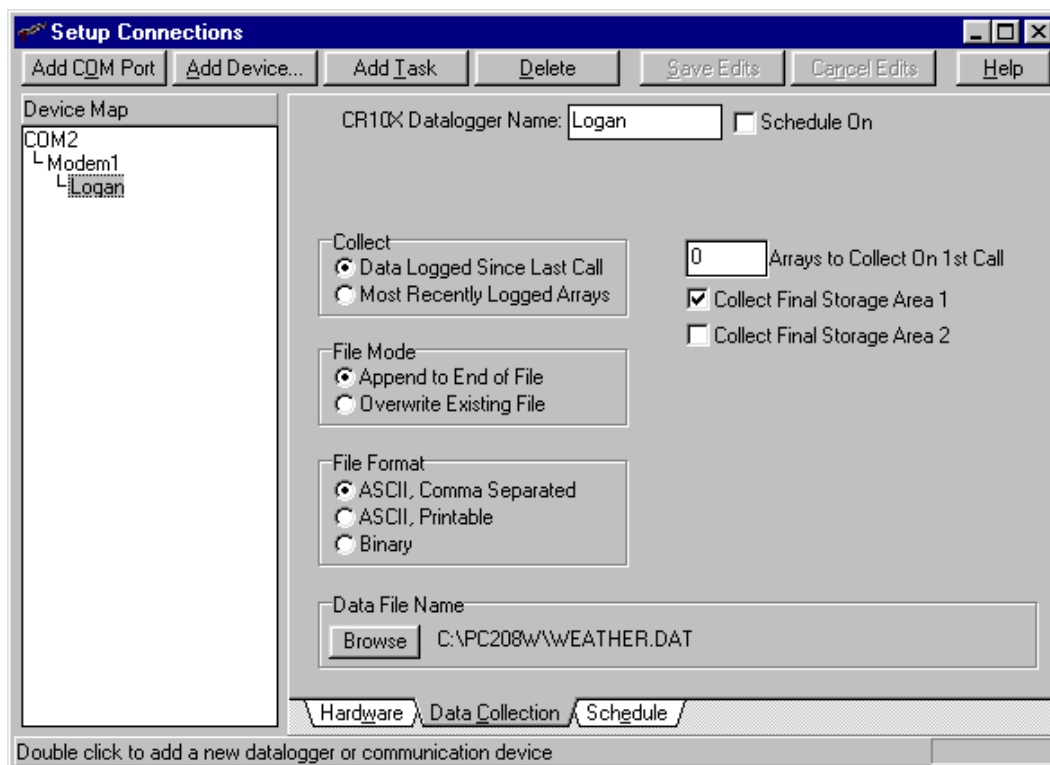

FIGURE G.3-4. Example Data Collection Settings
- On the DataCollection screen, "Data File Name" must be verified. (Weather.DAT for this example, Figure G.3-4). This does not have to be the same name as the datalogger.